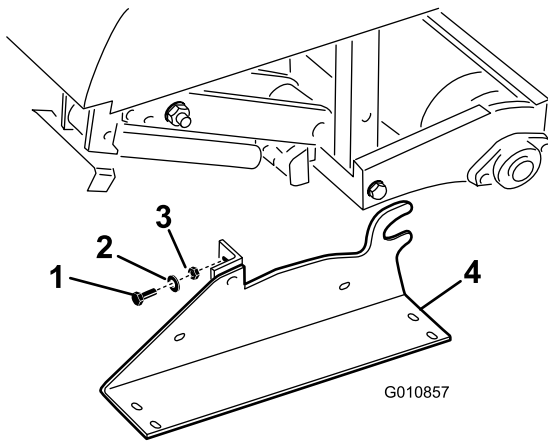

Figure 33
2. Remove the bolts, lock washers, and nuts securing the storage stands to each end of the aerator (Figure 33).